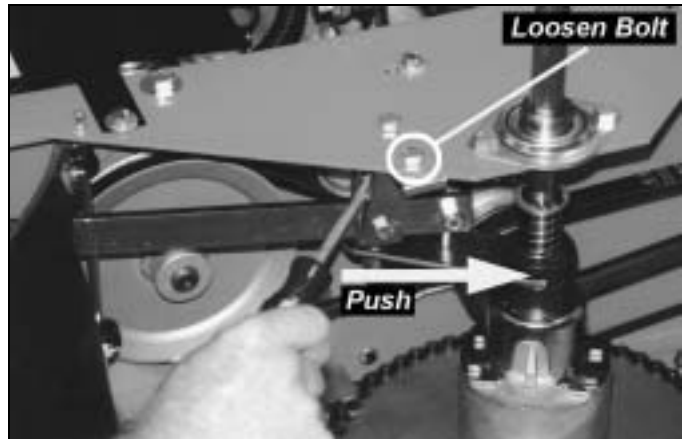

Figure 25
1. Loosen the bolt in *Figure 25* about 1/2 turn.
2. With a screwdriver, push the shift support toward the axle as far as it will go and tighten the bolt (*Figure 25*).